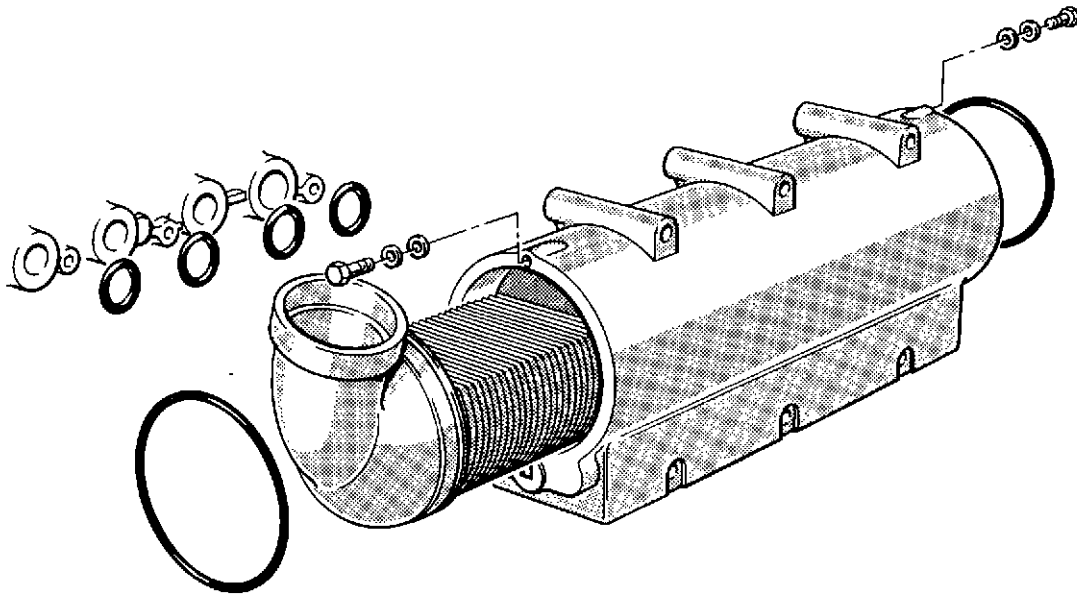

Fig. 27 Oil-to-coolant heat exchanger
- 145 Check that four new 'O' ring seals are fitted into the locations in the oil-to-coolant heat exchanger mating face. Using locally made guide studs, position the heat exchanger assembly, (fig. 27), against the adaptor, insert the six securing setbolts, complete with plain and spring washers, and tighten securely.